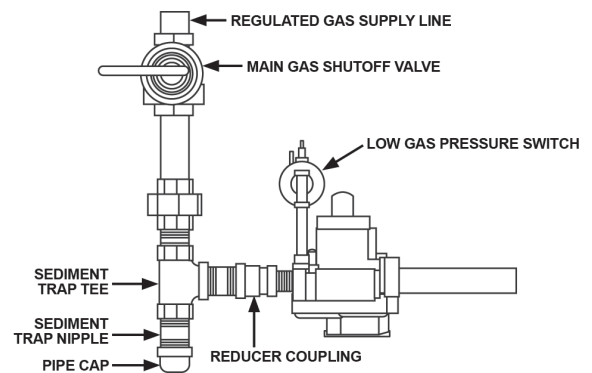

FIGURE 21.
To trap any dirt or foreign material in the gas supply line, a sediment trap must be incorporated in the piping (see Figure 21). The sediment trap must be readily accessible and not subject to freezing conditions. Install in accordance with recommendations of serving gas suppliers. Refer to the latest version of the National Fuel Gas Code.
- For test pressures exceeding 1/2 psi (3.45 kPa) disconnect the water heater and its Main Gas Shutoff Valve from the gas supply piping system during testing, see Figure 21. The gas supply line must be capped when disconnected from the water heater.
1. Close the Main Gas Shutoff Valve, see Figure 21.
3. Close the Main Gas Shut Off Valve, see Figure 21.
4. Wait five (5) minutes for any residual gas to clear.